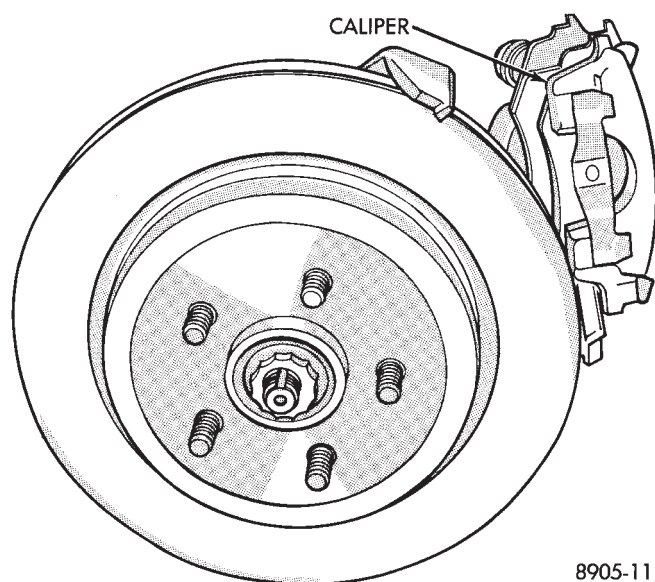

Fig. 8 Installing Caliper
(4) Install lower end of caliper on to adapter. Make sure the lower tabs on the brake shoes and the casting projections on the caliper are under the adapter rail (Fig. 8).
(5) Rotate caliper down over rotor.